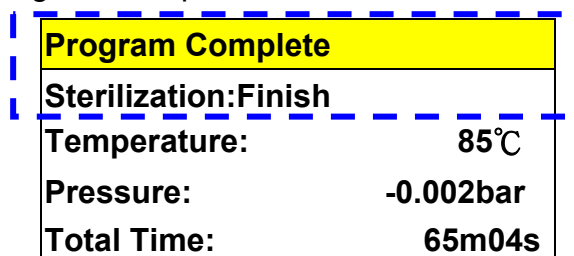

Figure 65– Program Complete
I. On completion, the buzzer will sound and the Program Complete message is displayed as shown in Figure 65– Program Complete.